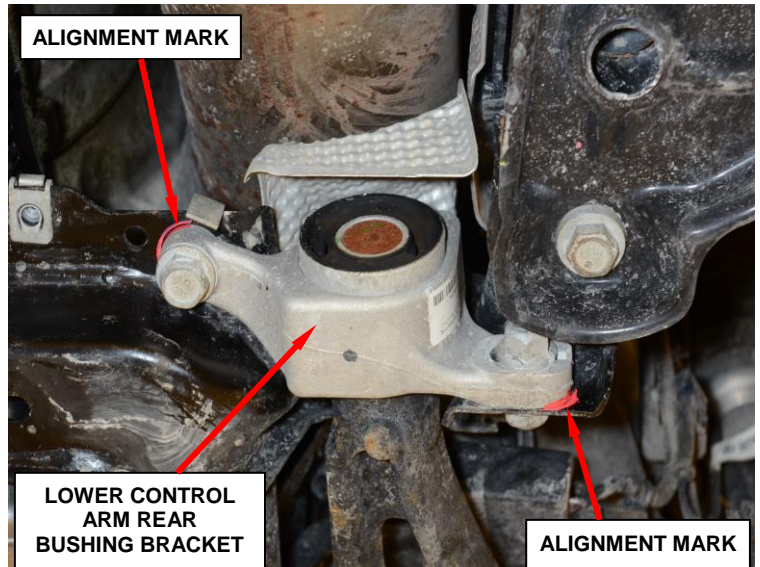

Figure 4 – Control Arm Bushing Bracket Alignment Marks
- Using a paint marker, place an alignment mark on the lower control arm rear bushing bracket to the cradle (Figure 4).
37. Install the lower control arm rear bushing bracket vertical bolt and nut and the horizontal bolt and nut (Figure 4).